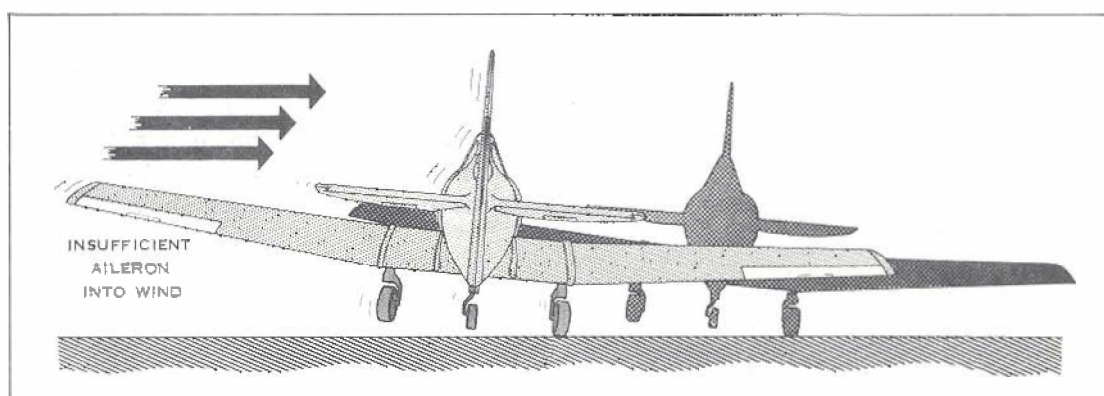

Figure 2: Skipping on Take-off
(2) Before starting the take-off, you should check the direction of the wind so that aileron can be applied at the start of the take-off run, and any weathercocking tendency can be counteracted with rudder. As the airspeed increases and the ailerons become more effective, you will have to ease off some of the pressure to keep the wings level. With increasing airspeed, the greater airflow over the up-wind wing develops more lift.
(3) If the up-wind wing is allowed to rise, thus presenting a greater impact surface area to the wind, the aircraft may start to "skip". (Figure 2) Skipping is caused by the up-wind wing attempting to fly and having to settle again because of the insufficient forward speed. While the wing is up, the wind pushes the aircraft sideways and small bounces develop which impose severe stresses on the undercarriage and airframe. In addition, the tendency for the aircraft to weathercock is increased.
(4) At 75K you should begin to ease back on the control column very gently so that the wheels come off the ground cleanly without bouncing along the runway. Remember to avoid jerking the aircraft off the runway in a high-